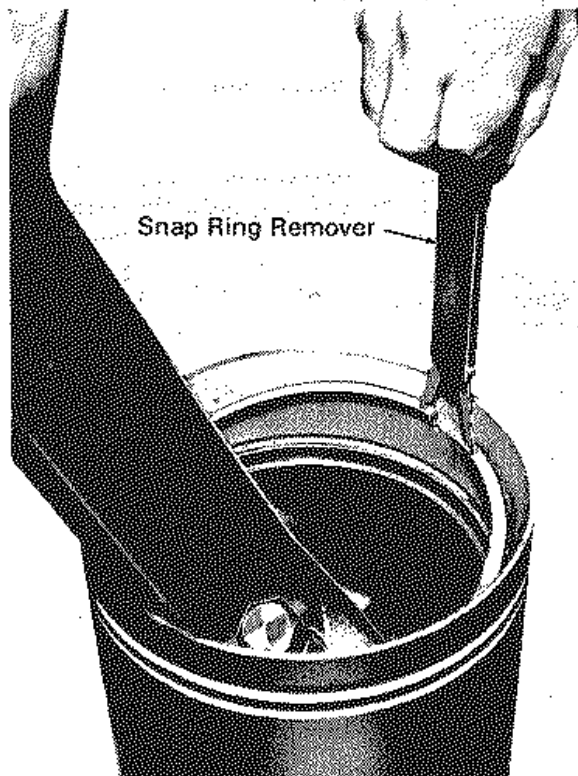

Fig. 5-16 - Installing Piston Snap Ring
25. Using the snap ring tool, position the piston snap ring in the piston, Fig. 5-16.